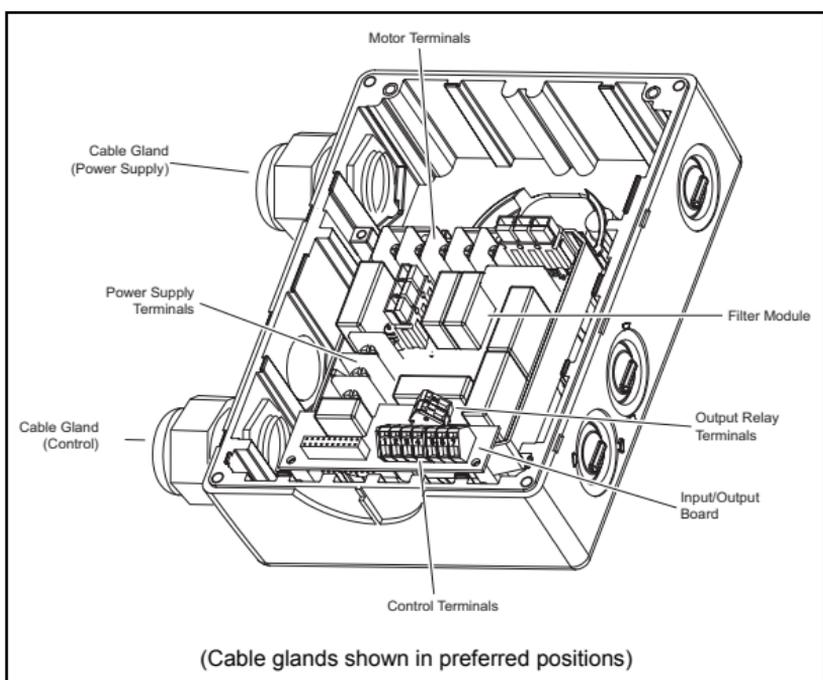

Figure 3 MICROMASTER 411 Terminal Housing (Case Size B)
With the product items removed from their packaging carry out the following installation procedure (refer to Figure 3 for location of components):
9. Fit the Filter Board (See Figure 3).
14. Fit the I/O board (see Figure 3).